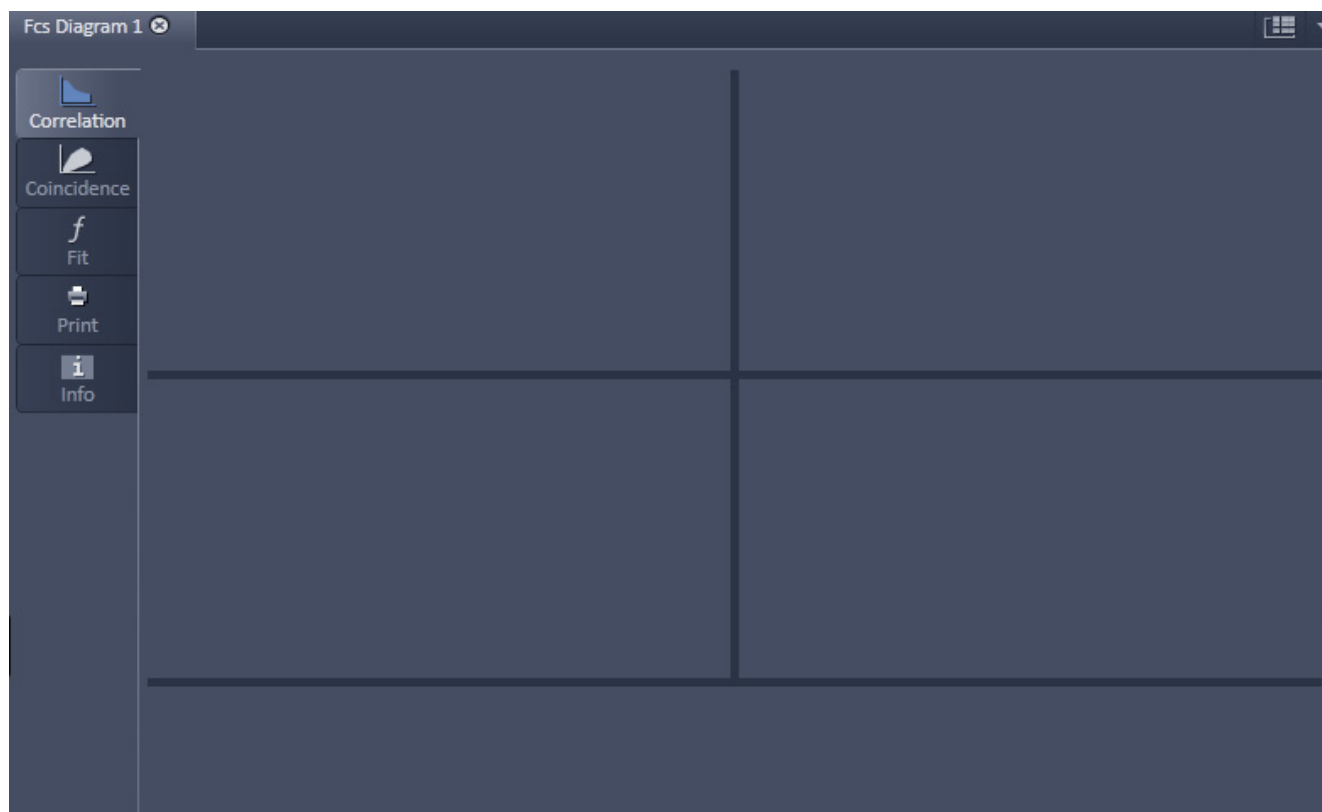

Fig. 347 Image Container with new FCS Diagram opened
- Click on the **New** document button to open a new **FCS Diagram** in an **Image Container**. New diagrams per session will be numbered starting with 0 (Fig. 347).
- Click the **Close** button (cross symbol) in the tab to close the **FCS Diagram**. The **Close Image** window will appear and prompt you to acknowledge closing the diagram if anything on the data was altered. Press **Yes** to save any changes, **No** to discard the alterations and **Cancel** to return to the diagram (Fig. 347).